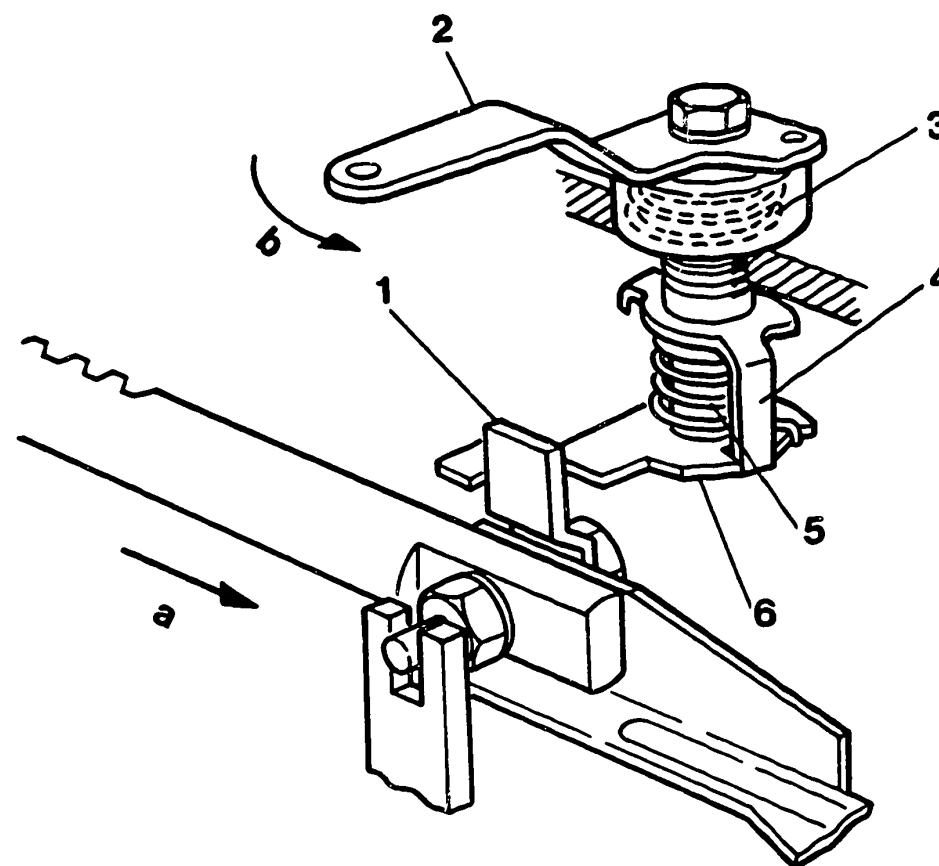

Fig. 19
In a manner similar to other governors, the type RLD (K) mechanical governor can be equipped with a shutoff device. The shutoff device is installed on the top of the governor housing as shown in Fig. 19.